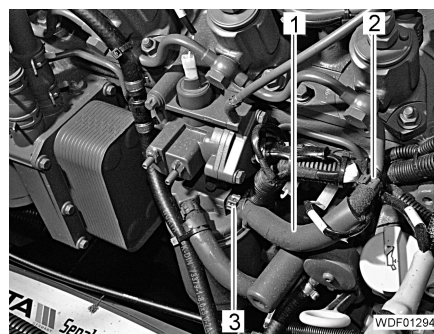

Fig. 150 Fuel line
- Close off the fuel line (Fig. 150,1) at both ends.
- Remove the clamp (Fig. 150,2) and clamp (Fig. 150,3).